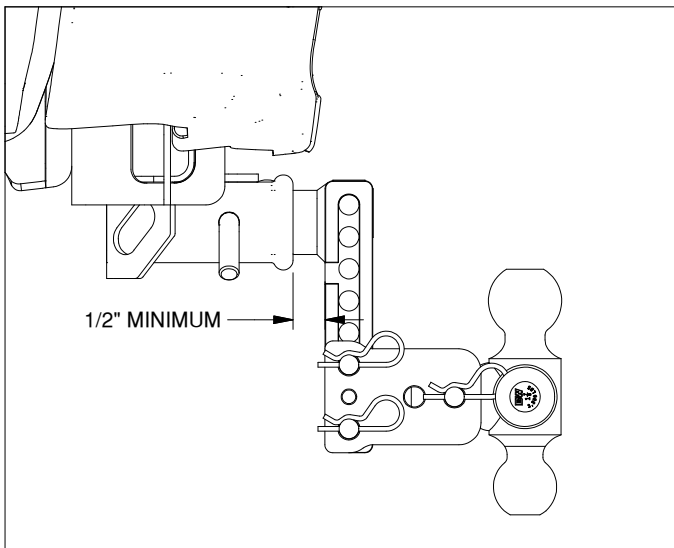

Figure A1: Typical towing accessory.
1. **Compatibility:** This product is designed to accommodate most receiver hitch towing accessories with a shank that provides at least a 1/2" of clearance between the receiver hitch and the accessory when pinned, see Figure A1.